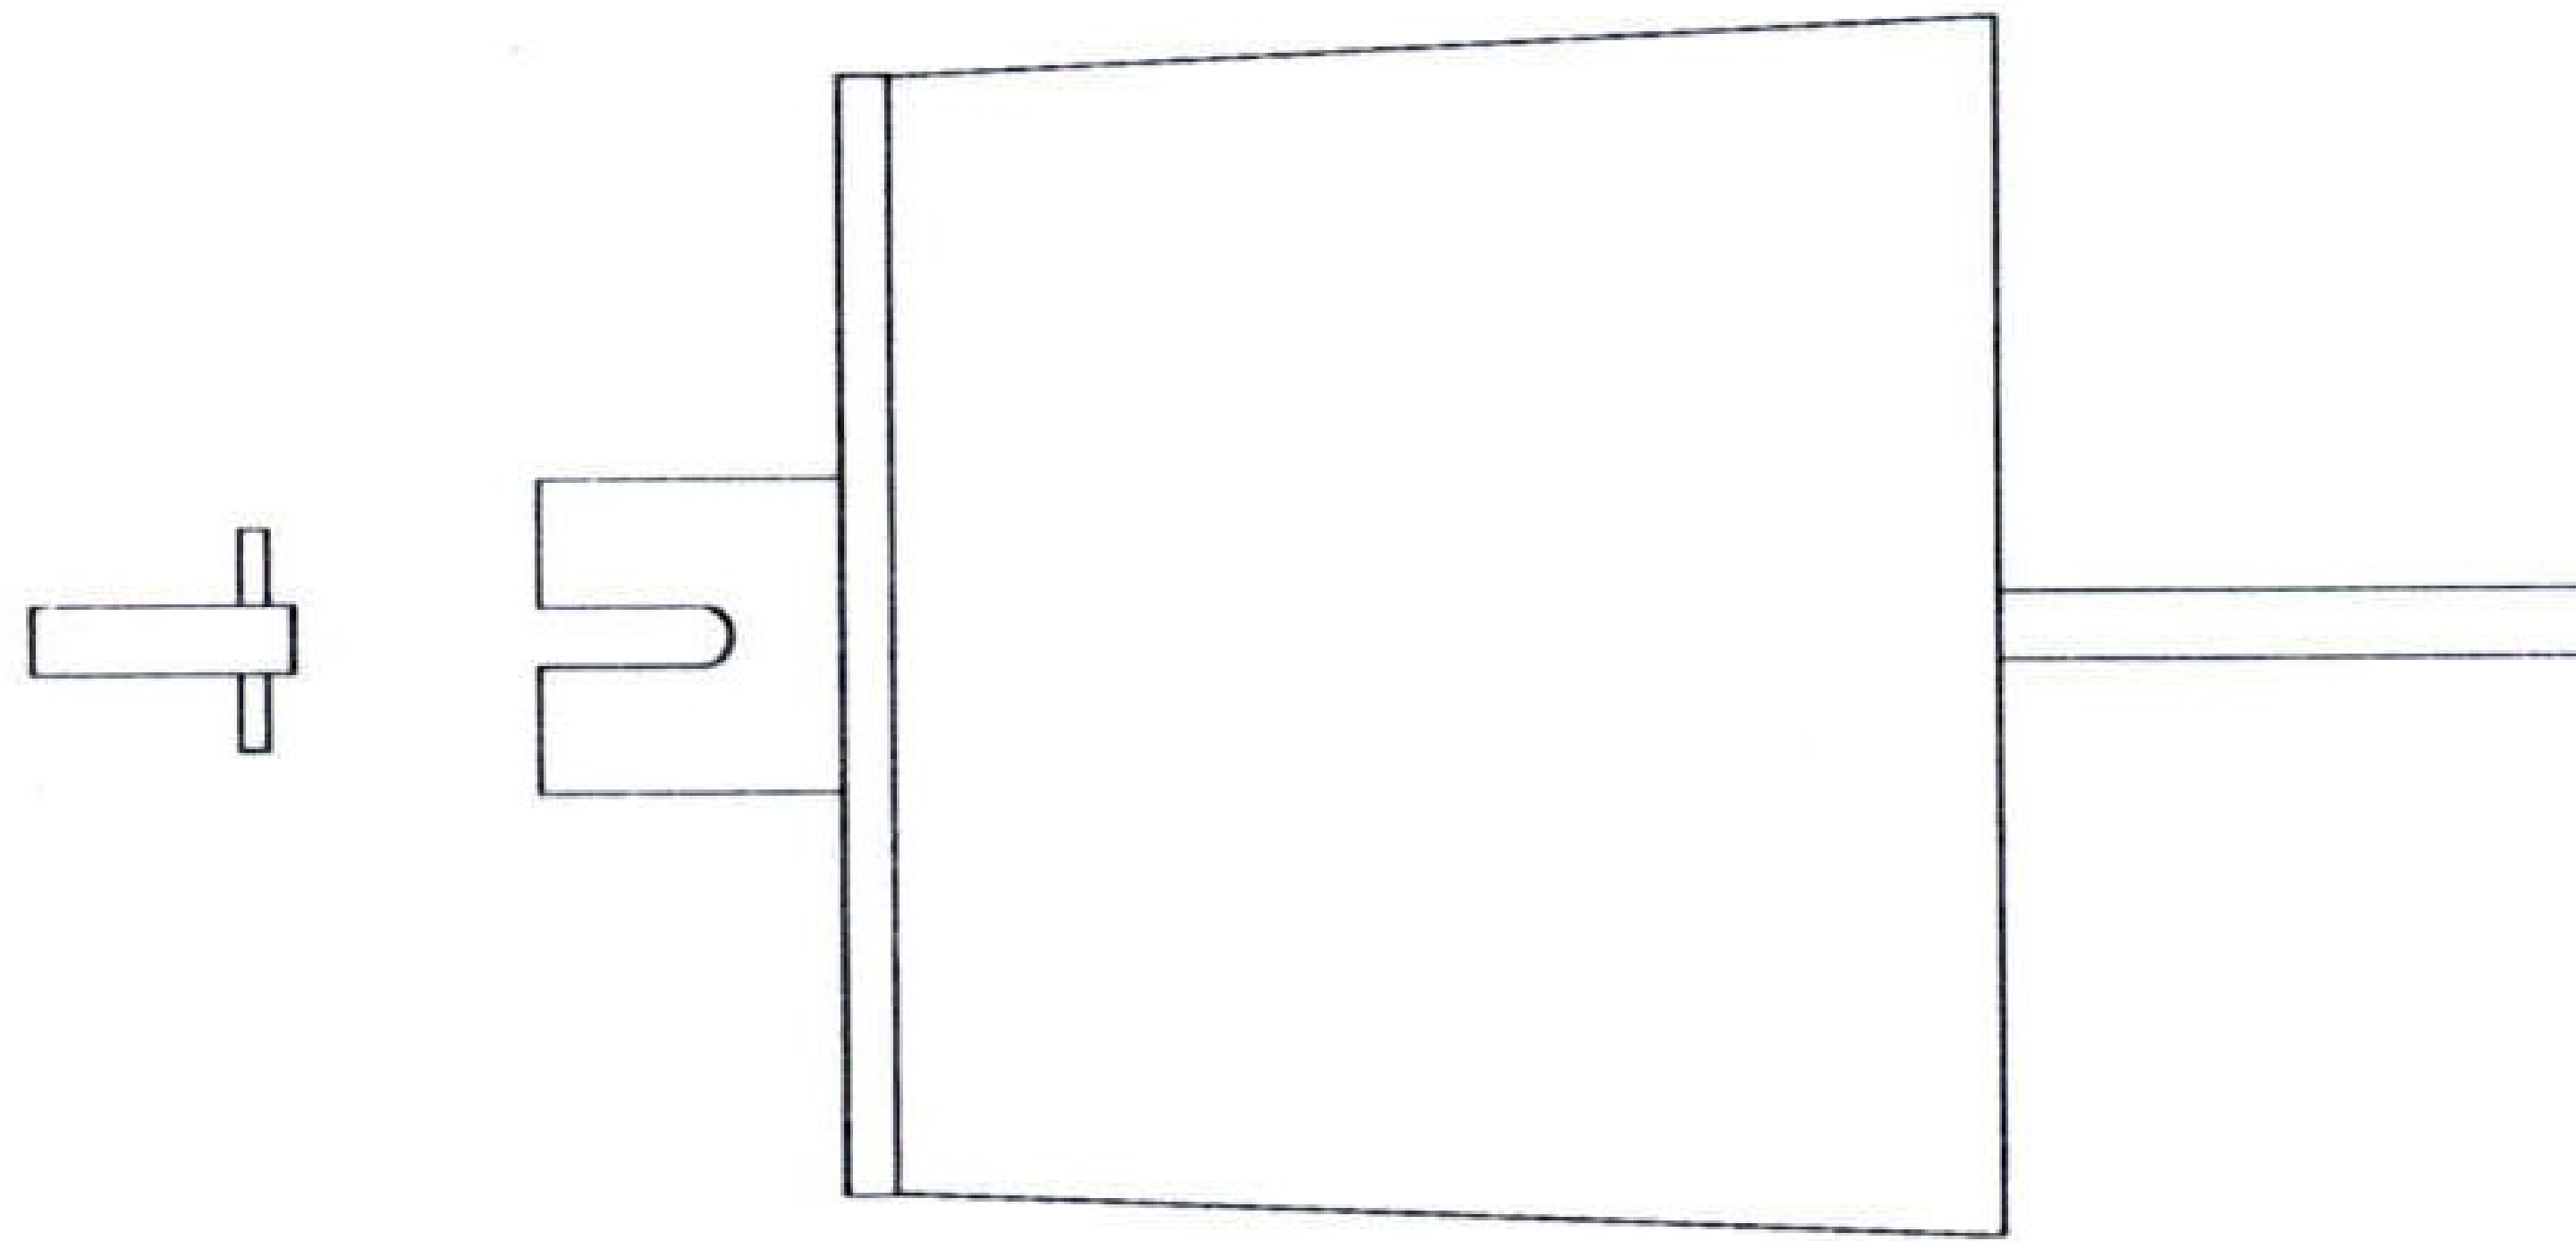

Fig. 3
15. Slide the closed end of the evaporator pad assembly onto the motor shaft and swing the shaft into the saddle bearing at the opposite end (see Fig. 3).